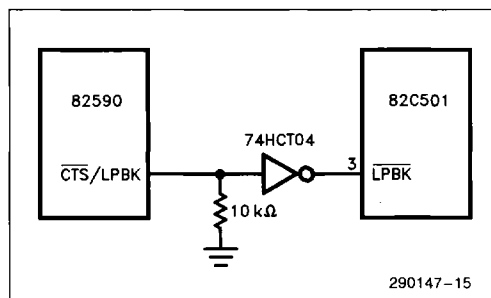

Figure 14. Loopback Output to the 82C501
- ⑥ **CRC Transfer to Memory**—The 82590 can be programmed to transfer the CRC field of a received frame into memory.
- ⑦ **Loopback Signal to the 82C501**—The 82590 can be programmed to provide an active High loopback signal to the 82C501 (see Figure 14).
- ⑧ **StarLAN**—The 82590 can be configured to recognize the IEEE 802.3 1BASE5 Collision Presence Signal (CPS). In this mode it also delays deactivation of the $\overline{\text{RTS}}$ signal at the end of a frame transmission in order to insert an end-of-frame marker according to the standard.